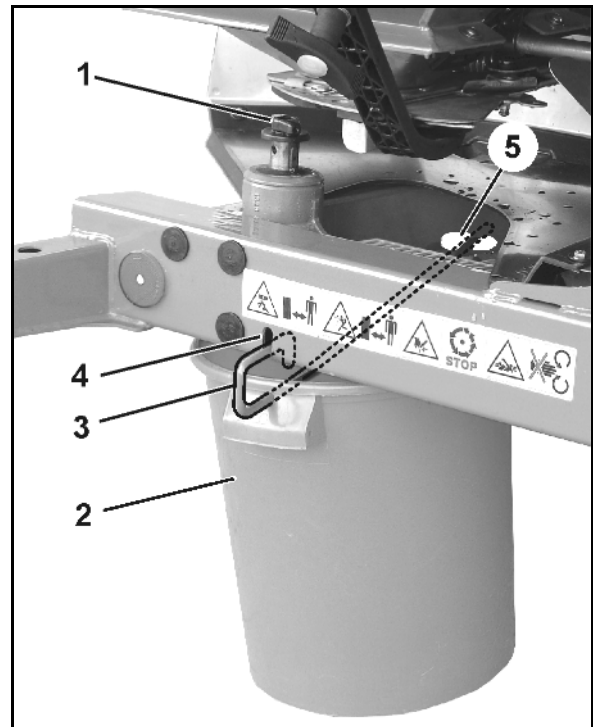

Fig. 40
- 2.1 Unscrew the thumb bolt (Fig. 40/1) securing the spreader disc and remove the spreader disc from the gearbox shaft.
3. Hook the collection bucket (Fig. 40/2) using the brackets (Fig. 40/3) into the supports (Fig. 40/4 and Fig. 40/5) on the frame.